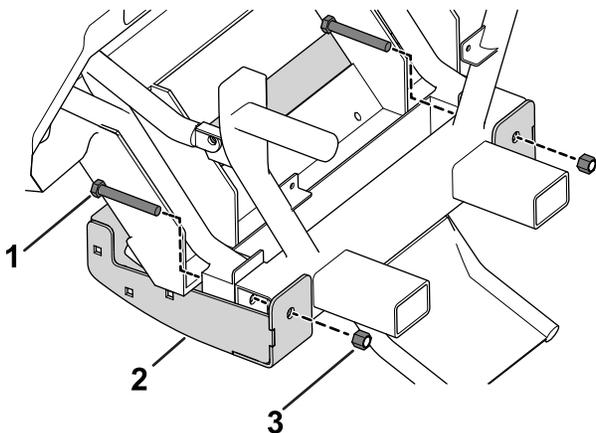

Figure 1
4. Loosely secure the skid plate to the frame using 2 hex-head bolts (1/2 x 3-1/2 inches) and 2 nuts (3/8 inch) as shown in Figure 1.